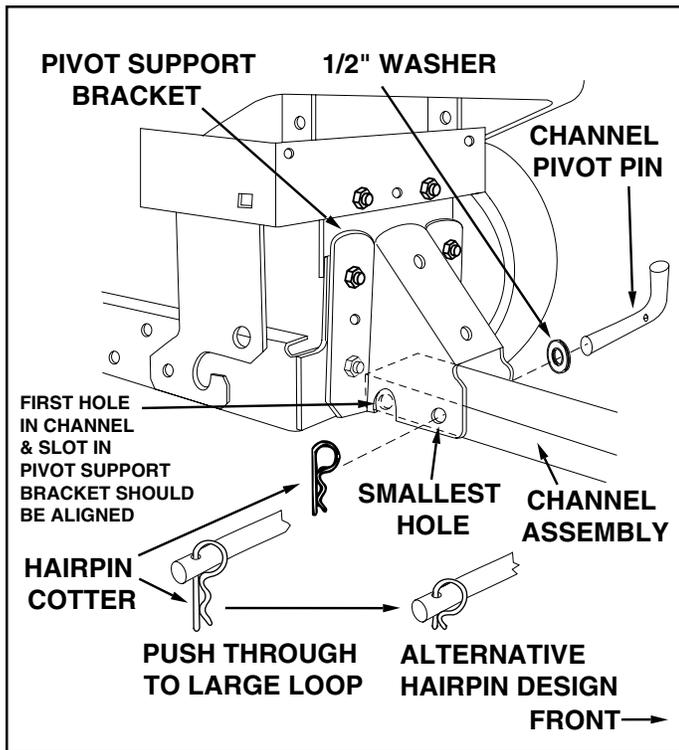
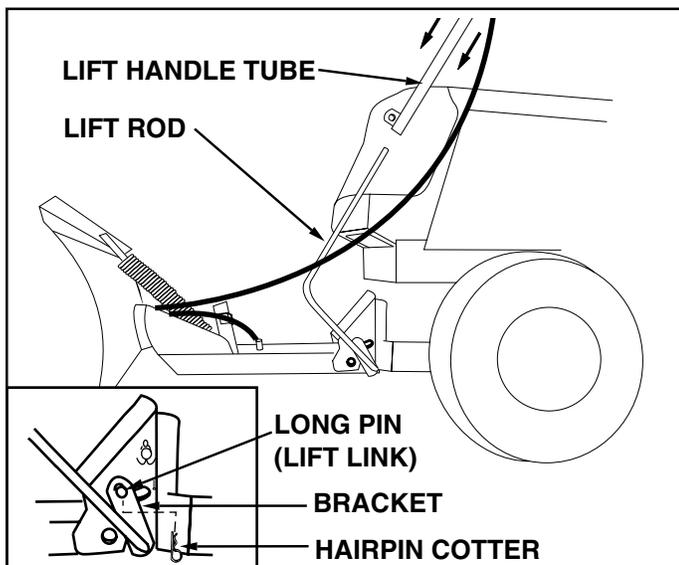
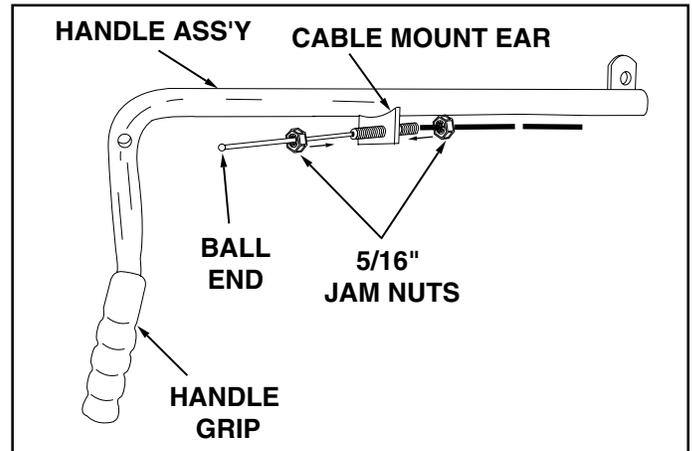

FIGURE 16 (Right Hand Side View)
FIGURE 17 (Left Hand Side View)
FIGURE 18 (Right Hand Side View)
- Place the end of the channel assembly up inside the pivot support bracket. Align the hole second from the end in the channel assembly with the front hole in the pivot support bracket and secure through from the left side with the channel pivot pin, the 1/2" washer and one hairpin cotter. The hairpin cotter should be pushed all the way through to the loop end. See figure 16.
- To assemble lift handle to blade, assure that holes in end of channel assembly are aligned with clearance slots in sides of pivot support bracket as shown in figure 16. From the left side insert the end of the lift rod through the holes in the channel assembly. Next, align the hole in the lift rod bracket with the lift link which was assembled to the pivot support bracket. Secure with a hairpin cotter inserted up through the cross hole in the lift link pin all the way to the loop end of the hair pin cotter. See figure 17.
- Using the furnished grease packet, apply a light coating of grease to the straight upper portion of the lift rod. Slide lift handle tube onto the lift rod. See figure 17.
- To attach loose end of cable to handle assembly, pass cable around outside and underneath handle assembly as shown in figure 17. Mount one 5/16 inch jam nut approximately 3/4 inch onto threaded end of control cable. Insert threaded end of cable up through cable mount ear on handle assembly and secure with a second 5/16 inch jam nut. **Tighten**. See figure 18.